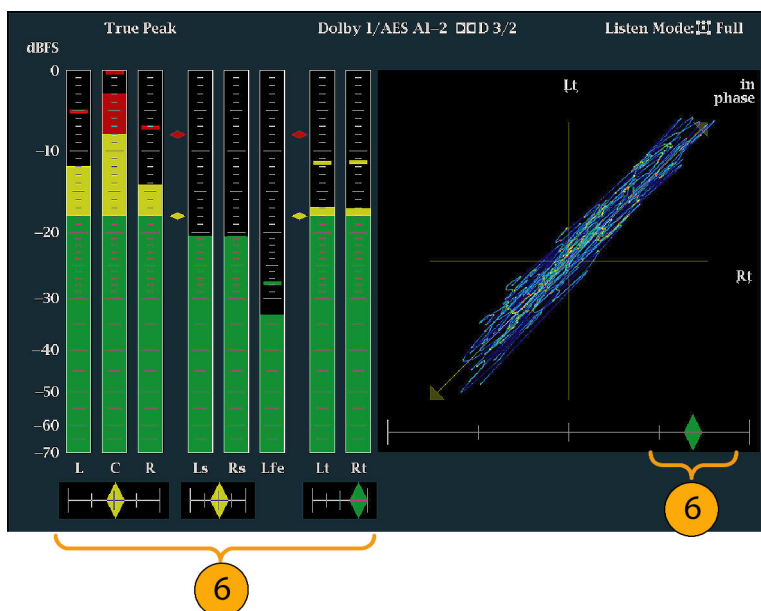

Figure 56: Checking for phase correlation
6. Check for Phase correlation of the signals, noting the following: (See Figure 56.)